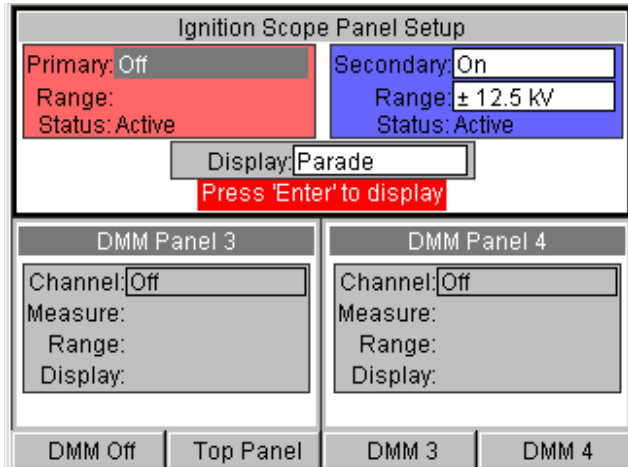

Figure 8.20: Ignition Scope Panel Setup Screen, DMM On
- 4 Press the **DMM On** function key. This displays the ignition scope/DMM setup screen, as shown in Figure 8.20 on page 83.